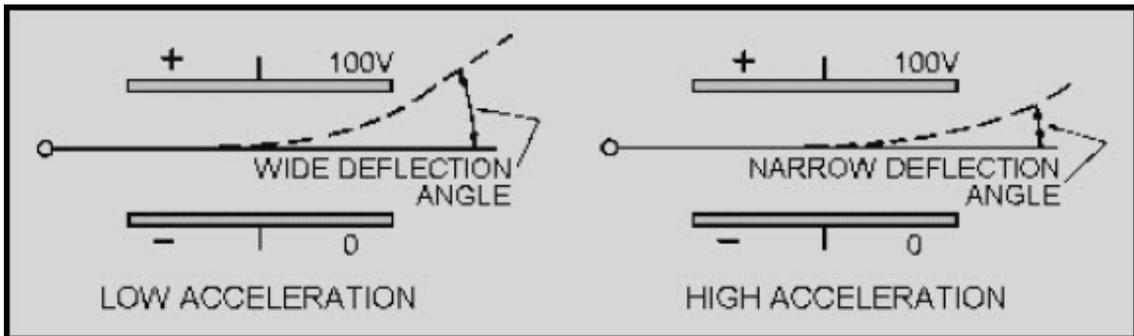

Figure 6-6 Beam acceleration
**BEAM ACCELERATION** - The faster the electrons are moving, the smaller their deflection angle will be, as shown in figure 6-6.